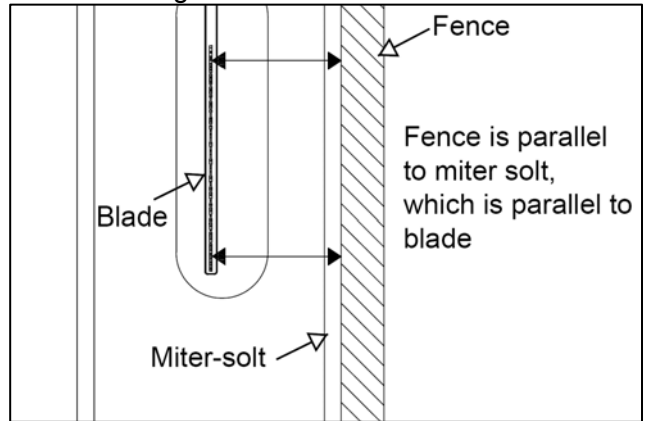

Fig. 11
3. Check the fence parallelism and perpendicularity (Fig.11)
As shown in Fig.11, after securing the fence, ensure that the fence is parallel to the miter slot, which is parallel to blade at any locations. And make sure that the distance $L_1 > L_2$, $L_1 - L_2 < 1/64$ " , which creates a slightly larger opening between the